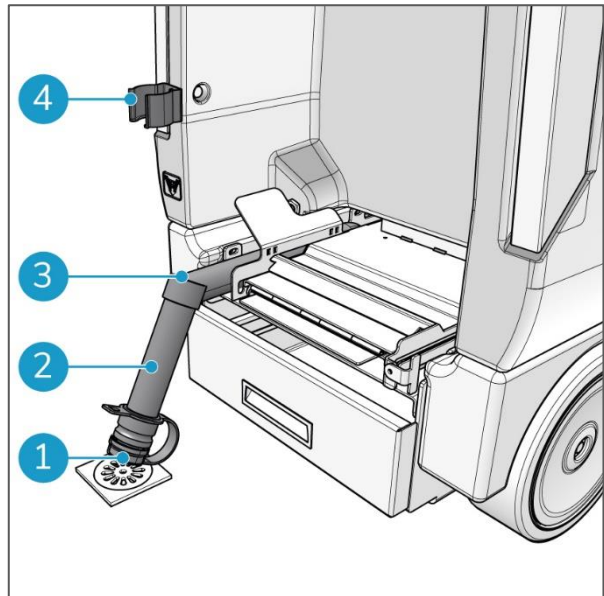

Figure 54
5. Release the recovery tank wastewater tube (Figure 54, pos 2) from the clamp (Figure 54, pos 4).
6. Fold the tube so you create a blockage (Figure 54, pos 3).
8. Loosen the lid (Figure 54, pos 1) of the recovery tank wastewater tube.
13. When the recovery tank is clean, place the recovery tank wastewater tube in the clamp (Figure 54, pos 4).
14. Tighten the lid of the recovery tank wastewater tube (Figure 54, pos 1). Make sure it seals correctly to avoid false air being sucked in.